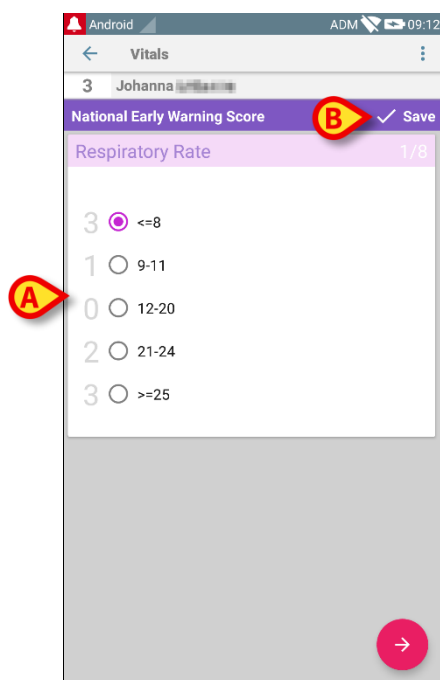

Fig 58
The data entry screen will open (Fig 58).
- Edit data (Fig 58 **A**).
- Touch **Save** (Fig 58 **B**).